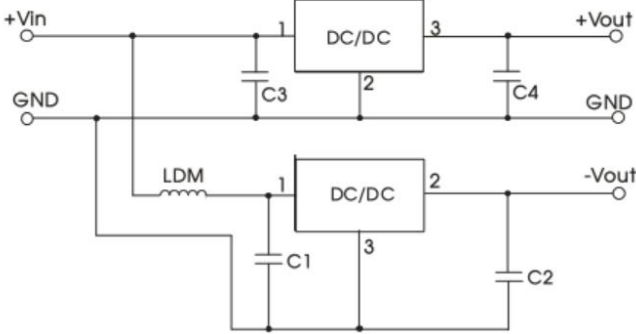

Fig. 3 Positive and Negative output application circuit
- 4. When using configurations as shown in figure 3, we recommended to add an inductor (LDM) with a value of up to 10μH which helps reducing mutual interference;